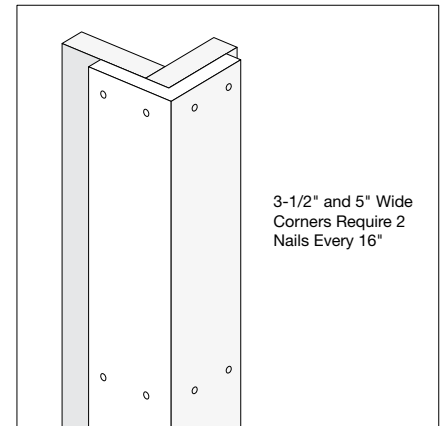

Fig. 10
- Standard 3-1/2" and 5-1/2" wide (per side) corner products require two fasteners evenly spaced across each side spaced no more than 16" apart along its length (**Fig. 10**).